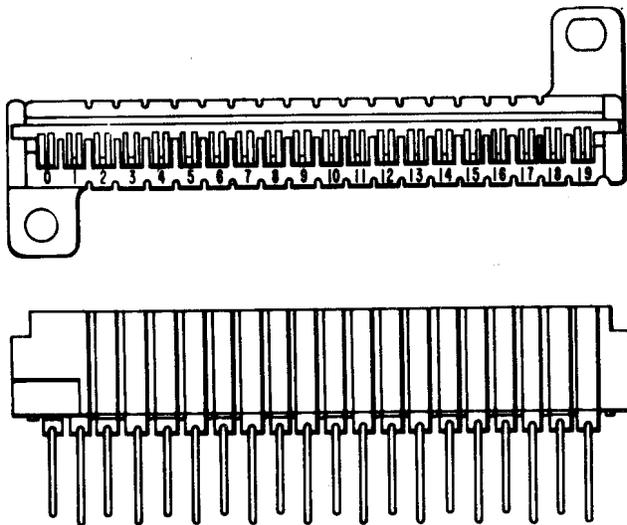

Fig. 8—913A, B, C, or D Connector
2.06 913A, B, C, and D: The 913A, B, C, and D connectors (Fig. 8) consist of a molded housing of insulating material equipped with up to 20 contacts. The mating end has a single row of bifurcated ribbon-type contact springs. This will connect with circuit terminations on one side of a 0.062-inch thick printed wiring board when inserted into the connector. On the wiring end, the contact spring terminals are provided in two equal rows and arranged for mechanically wrapped connections.